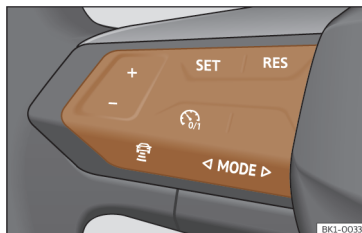

Fig. 103 On the multifunction steering wheel: buttons to operate the ACC
- To start regulation, press the button **SET** >>> Fig. 103.
>>> **Fig. 103** buttons to the desired speed. The speed is adjusted at intervals of 10 km/h (5 mph).
- Press the button  and then the button + or –>>> **Fig. 103**.